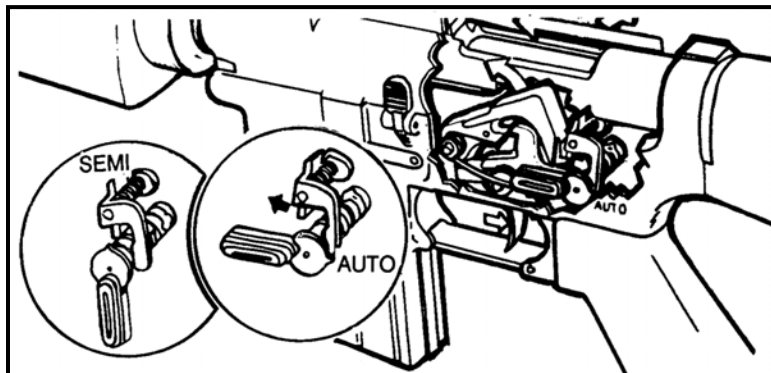

Figure 4-11. Automatic fire mode.
b. **Automatic Fire Mode (M16A3 Rifle, M4A1 Carbine Only).** When the selector lever (Figure 4-11) is set on the AUTO position, the rifle continues to fire as long as the trigger is held back and ammunition is in the magazine. The functioning of certain parts of the rifle changes when firing automatically.
(1) Once the trigger is squeezed and the round is fired, the bolt carrier group moves to the rear and the hammer is cocked. The center cam of the selector depresses the rear of the disconnecter and prevents the nose of the disconnecter from engaging the lower hammer hook. The bottom part of the automatic sear catches the upper hammer hook and holds it